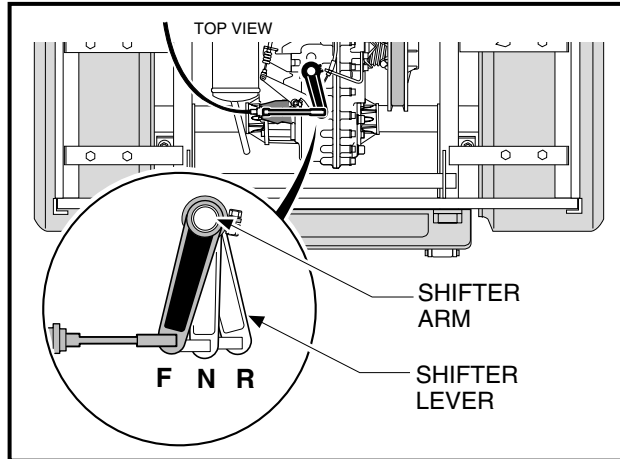

Figure 19-2 Shifter Positions
A shifter lever, connected to a shifter arm on the unitized transaxle, is used to change the gears to one of three shift positions: FORWARD (F), NEUTRAL (N), or REVERSE (R) (**Figure 19-2, Page 19-2**). The vehicle should come to a complete stop before changing FORWARD or REVERSE direction.